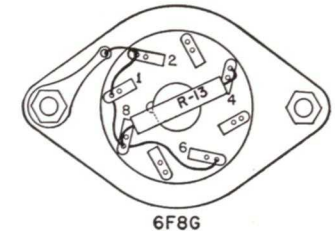

FIG. 8. Bottom view of the 6F8G socket with the 200-ohm resistor R_{13} soldered between 4 and 8.
Step 9. Wire the cathode circuit of the 6F8G tube as shown in Fig. 8
by connecting your 200-ohm resistor between socket terminals 4 and 8 as R₁₃. Solder both terminals, and position the resistor over the socket just as shown in Fig. 8.